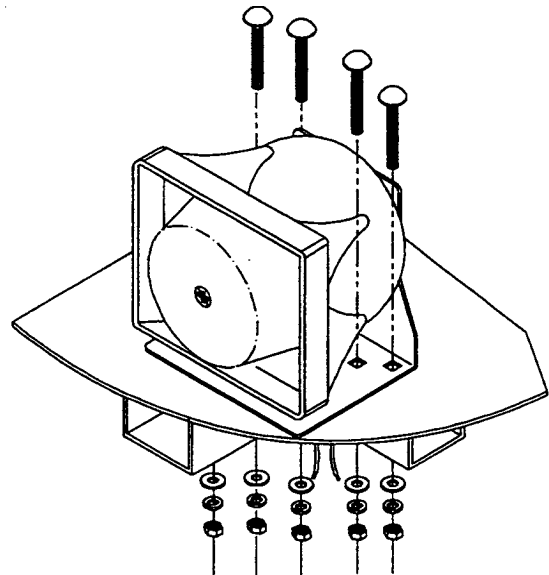

FIGURE 2
- 3) Attach the speaker assembly to the bumper using the fasteners shown in Figure 2. **It is critical that the cap screw in the speaker bell be fastened securely to the bracket and preferably to a structural member in the bumper. Failure to do this will result in bracket failure and void the warranty.**